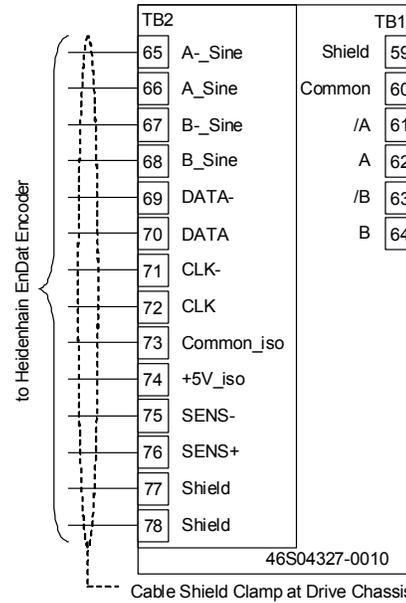

Figure 43: EnDat Encoder Connections
Connect Encoder Cable using a Heidenhain extension cable per Figure 43 and the encoder cable shield.
- Erratic movement of the motor may occur during acceleration and deceleration segments of the alignment, but constant speed operation will be smooth. If the fault **ENCDR CRC ERR**ⁱ is displayed, verify the encoder wiring as shown in Figure 43. Also verify JM2 is connected to position 1-2, or 2-3. Retry alignment procedure.